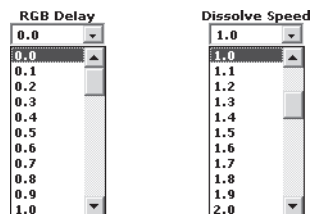

Figure 6-3 — RGB Delay and Dissolve Speed scroll boxes
1. Click either the RGB Delay or Dissolve Speed field. A drop down scroll box appears (figure 6-3).